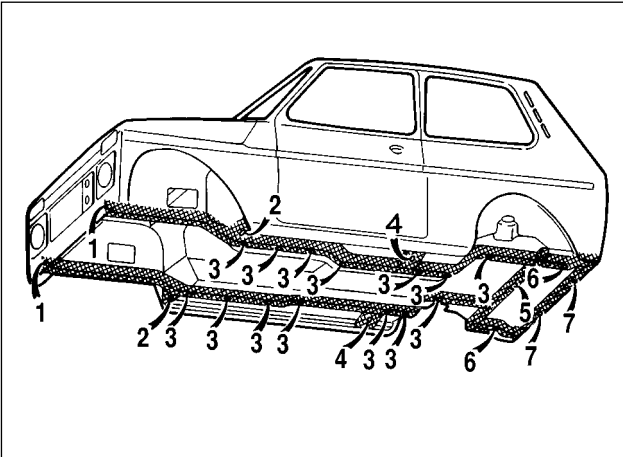

Fig.8-8. Underneath view of the body. Inner cavities of:
- drive the vehicle into a corrosion treatment booth and position it on a lift; spray the relevant rust inhibitor onto the areas shown in Fig.8-6, Fig.8-7 and Fig.8-8;